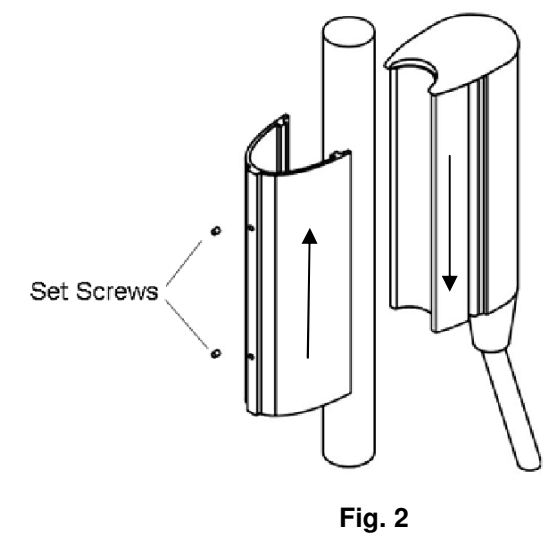

Fig 2: Exploded view of how to attach the sensor to the mirror.
- The bullet™ sensor is held by a two-piece plastic assembly. Separate the plastic assembly from the aluminum housing by sliding the unit apart. Set the plastic unit aside. Separate the two parts of the aluminum housing and reassemble around the C-loop as in Figure 2